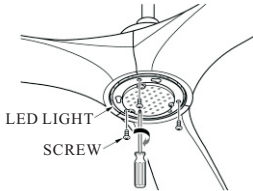

FIG.16
- 5. Screw back the 3 previously removed screws and tighten the light kit.(See fig.16)